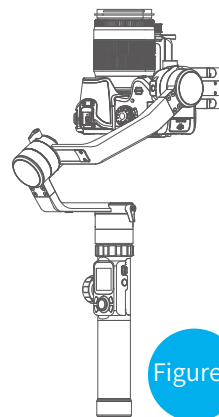

Figure6
(1) Adjust the position of the camera's tilting axis up and down: Place the camera lens upright and keep the cross arm horizontal, as shown in Figure 6. After releasing the hand, observe the camera lens rotation state. Unscrew the locking screw of the tilt axis motor and adjust the balance by adjusting the sliding arm left and right (see Figure 7, Figure 8). When the cross arm is kept horizontal, the camera lens is placed vertically upwards and stays in a vertical state with the ground. The sliding arm adjustment is completed, as shown in Figure 6.